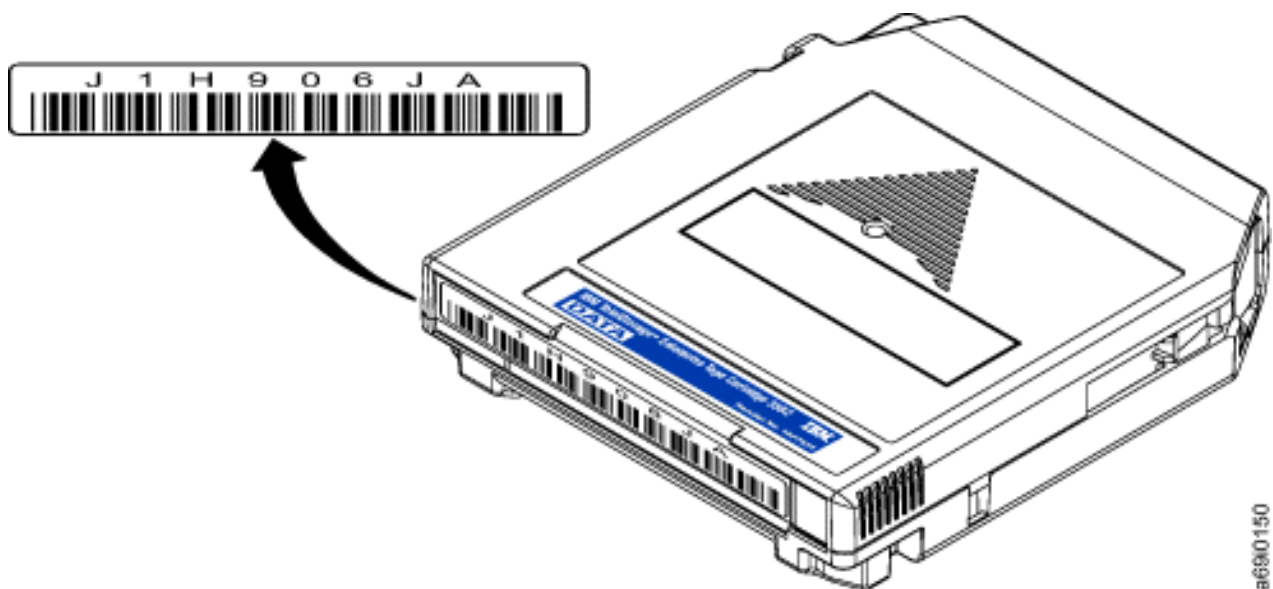

Figure 48. Sample bar code label on an IBM 3592 tape cartridge
When read by the library's bar code reader, the bar code identifies the cartridge's VOLSER to the tape library. The bar code also tells the cartridge type: data (JA), extended data (JB), advanced type C data (JC), advanced type D data (JD), advanced type E data (JE), economy (JJ), advanced type C economy (JK), advanced type D economy (JL), advanced type E economy (JM), economy WORM (JR), WORM (JW), extended WORM (JX), advanced type C WORM (JY), advanced type D WORM (JZ), advanced type E WORM (JV), cleaning, or diagnostic cartridge. Figure 48 on page 148 shows a sample bar code label for the IBM 3592 Enterprise Tape Cartridge.
When attaching a bar code label to a tape cartridge, place the label only in the recessed bar code label area (see Figure 48 on page 148). A label that extends outside of the recessed area can cause loading problems in the drive or the library.